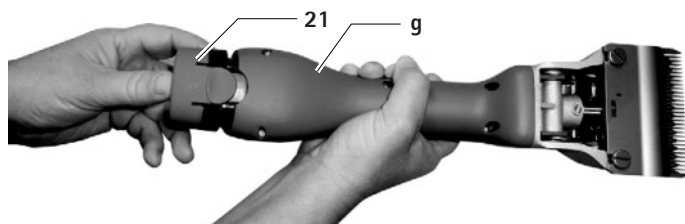

Fig. 2
- Remove the lithium ion battery 21, and push the charged and/or uncharged replacement lithium ion battery GT641 (3INR19/66-1) into the battery-operated clipping machine **g**, see Fig. 2.